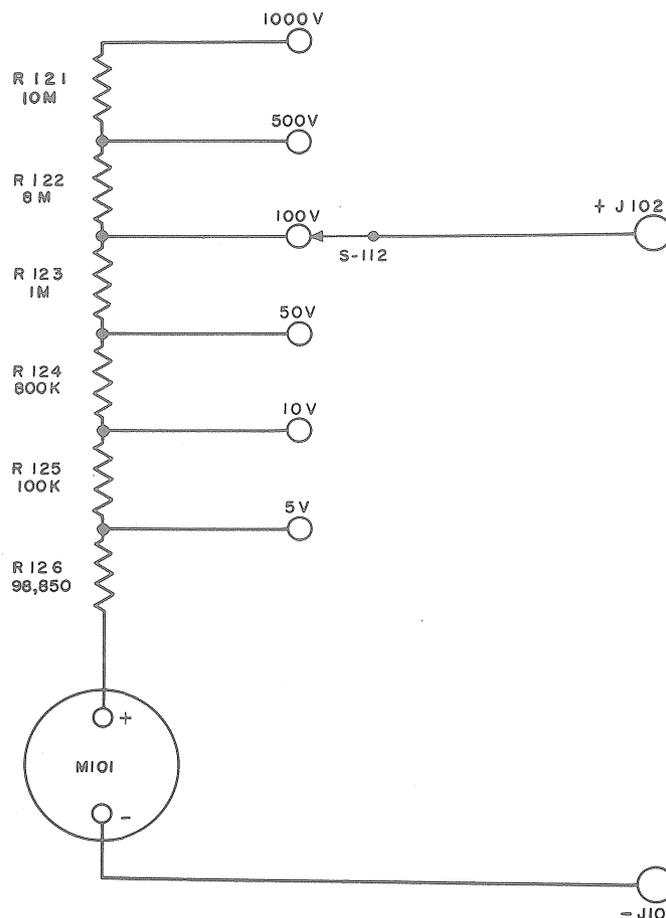

Figure 2-9.—Simplified DC Voltmeter Circuit.
a. VOLTS DC (See Figure 2-9)
- (1) The dc voltmeter circuit consists of the METER M-101 and a series of multiplier resistors, R-121 through R-126.